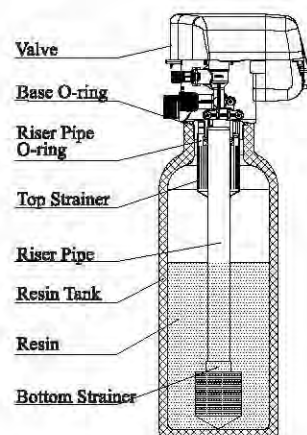

Figure 1
- ① The filter or softener should be located closely to drain.
- ② Ensure the unit is installed in enough space for operating and maintenance.
- ③ Brine tank is needed to be close to softener.
- ④ The unit should be kept away from the heater and exposed to outdoor. Sunshine or rain will cause the system damage.
- ⑤ Please avoid installing the system in one acid/alkaline, magnetic or strong vibration circumstance, because above factors will cause the system disorder.
- ⑥ Do not install the filter or softener, drain pipeline in circumstance which temperature may drop below 5°C, or above 50°C.
- ⑦ Install the system in the place where with the minimum loss in case of water leaking.
① Install control valve
- a. As the Figure 1 shows, select the riser pipe with 32mm OD, glue the riser pipe to the bottom strainer and put it into the mineral tank, cut off the exceeding tube out of tank top opening. Plug the riser tube in case of mineral entering.